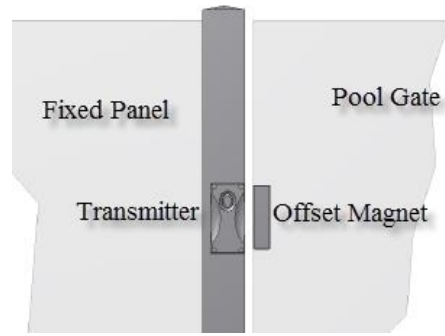

Figure 11
10. Remove the red cover film from the adhesive strip and press the offset magnet onto the glass of the pool gate opposite the transmitter assembly and with the edge of the offset magnet nearest the transmitter assembly flush with the edge of the pool gate glass (figure 11).